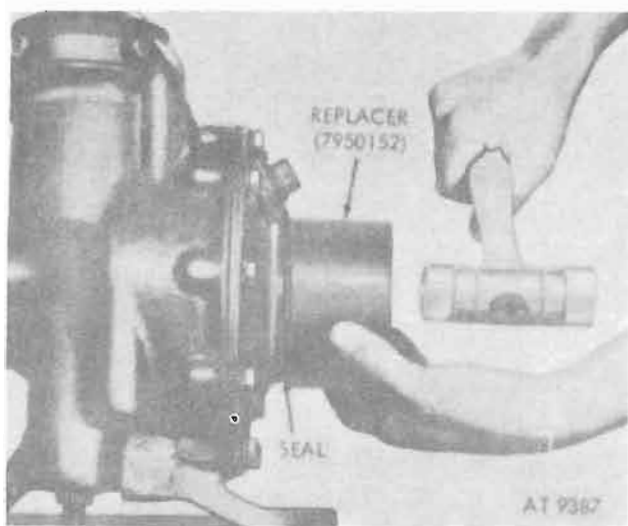

Figure 12-77. Using replacer to install side carrier seal.
e. Install side carrier seals using replacer (7950152) (fig. 12-77).